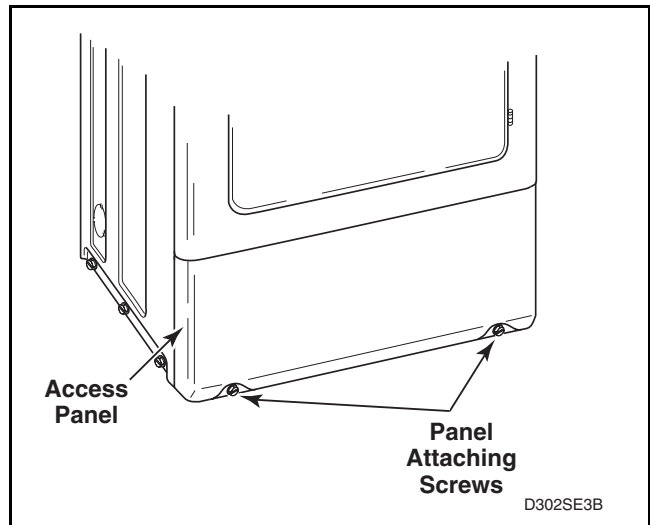

Figure 27
Refer to *Figure 27*.
- a. While supporting the access panel, remove two screws from bottom edge of access panel. Refer to *Figure 27*.
- b. Gently lower access panel to disengage panel locators from bottom edge of access panel. Refer to *Figure 27*.